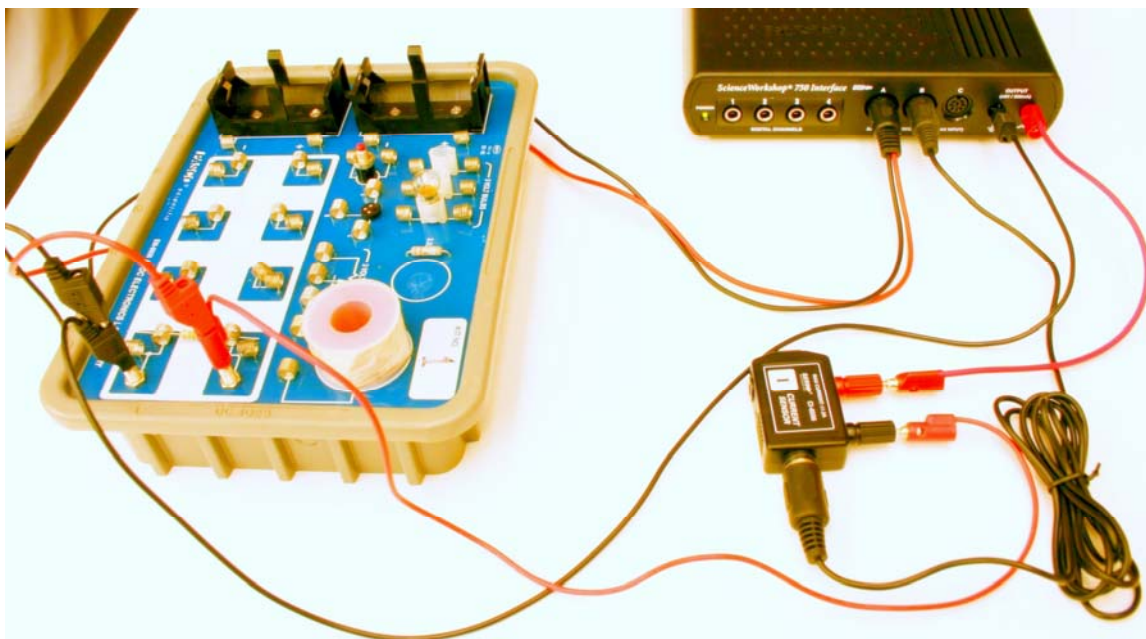

Figure 2: Ohm's Law setup
2. Place the resistor in the pair of component springs nearest to the input jacks at the lower left corner of the AC/DC lab board, as shown in Figure 2.